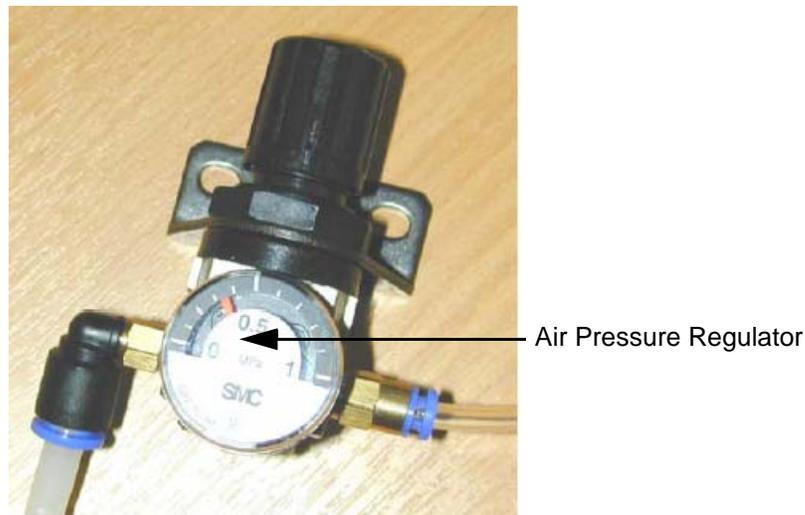

Figure 3-1: Air Pressure Regulator
- 1 Locate the air pressure regulator (Figure 3-1). It is close to the printhead and connected to the printhead by a 4-mm air line.